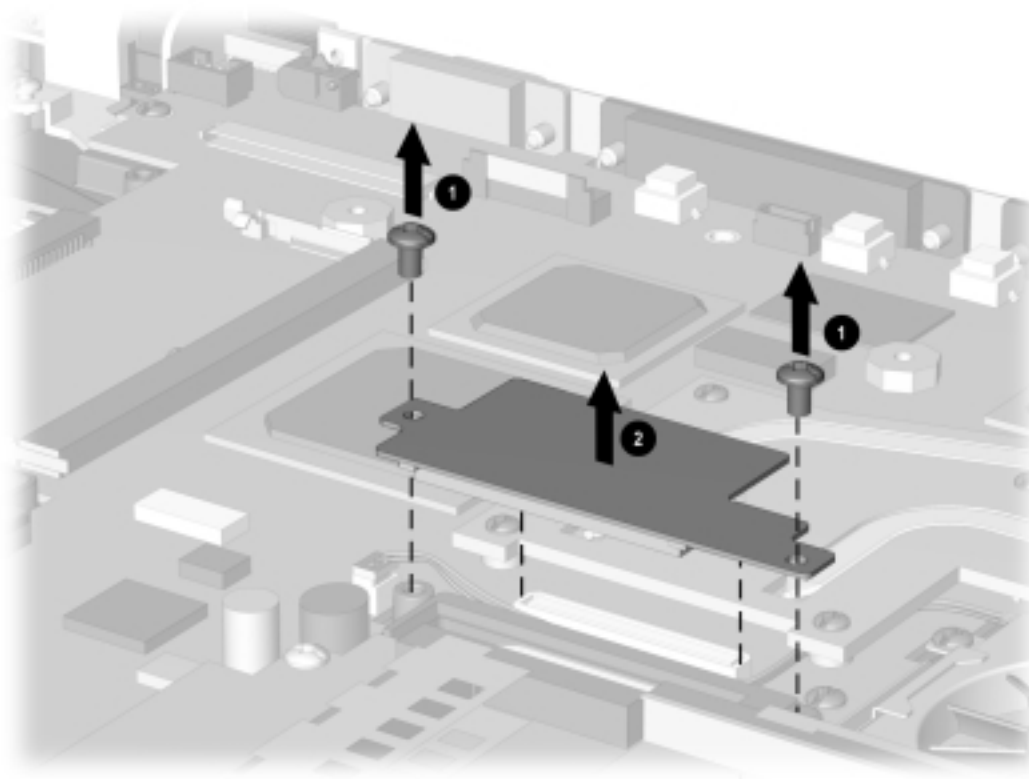

Figure 5-24. *Removing the Modem Connector Board*
7. Remove the two screws that secure the modem connector board ❶ to the system board (Figure 5-24).
8. Lift up on the modem connector board ❷ to disconnect it from the system board.